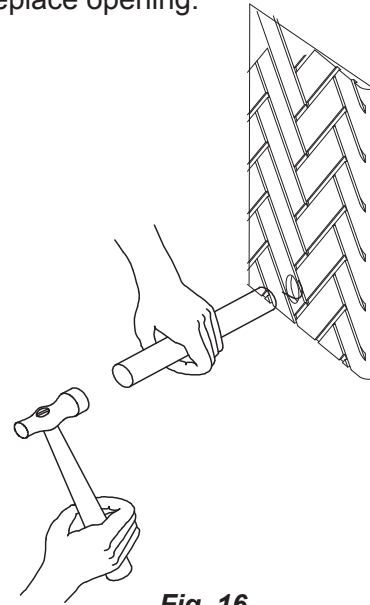

Fig. 16
3. Place the end of a 1" diameter wood dowel or metal pipe inside knock-out area of selected panel and punch out entire recessed area. (See Figure 16.)